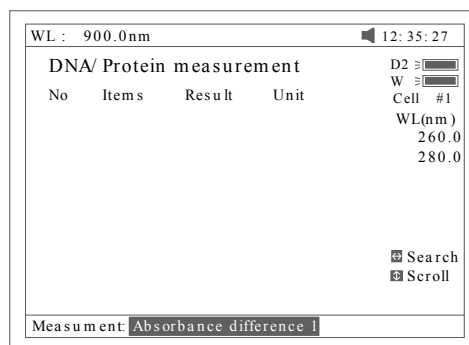
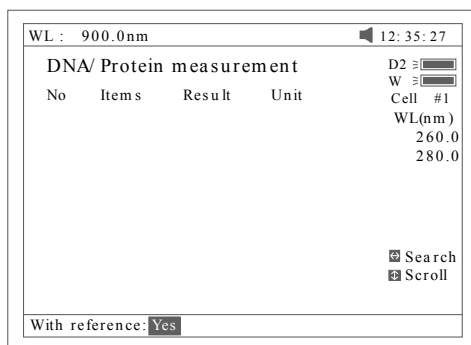

Fig 62
Fig 63
2. Press [**F2**] to select test mode. “Absorbance difference 1” is for testing at the wavelength 260nm, 280nm and 320nm (optional), and the “Absorbance difference 2” is for testing at the wavelength 260nm, 280nm and 320nm (optional), Fig 62. Then select with/without reference. If selected with reference (no), the A ref. will be “0” (Fig 63).